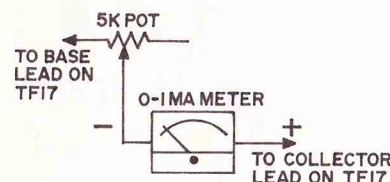

Figure 10. Connecting a meter for leakage calibration on the TF17.
2. Connect the positive lead of a 1 milliamp meter to the C or collector lead of the TF17 and the negative lead to one side of a 5K pot. See figure 10 for proper connections on the meter and TF17.